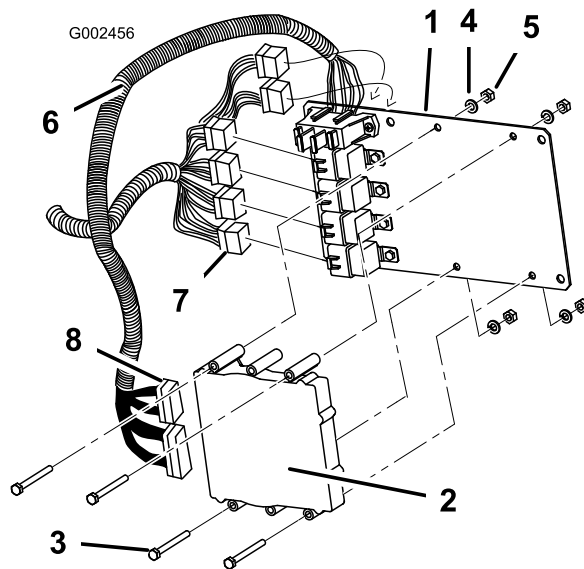

Figure 8
- Secure the ECU to the mounting plate (Figure 8), using 4 bolts (1/4 x 2-1/2 inch), 4 lock washers (1/4 inch), and 4 nuts (1/4 inch).
- Connect the relay leads on the wiring harness to the 6 relays on the mounting plate (Figure 8).
- Connect the 2 controller leads (one long and one short) on the wiring harness to the ECU (Figure 8).